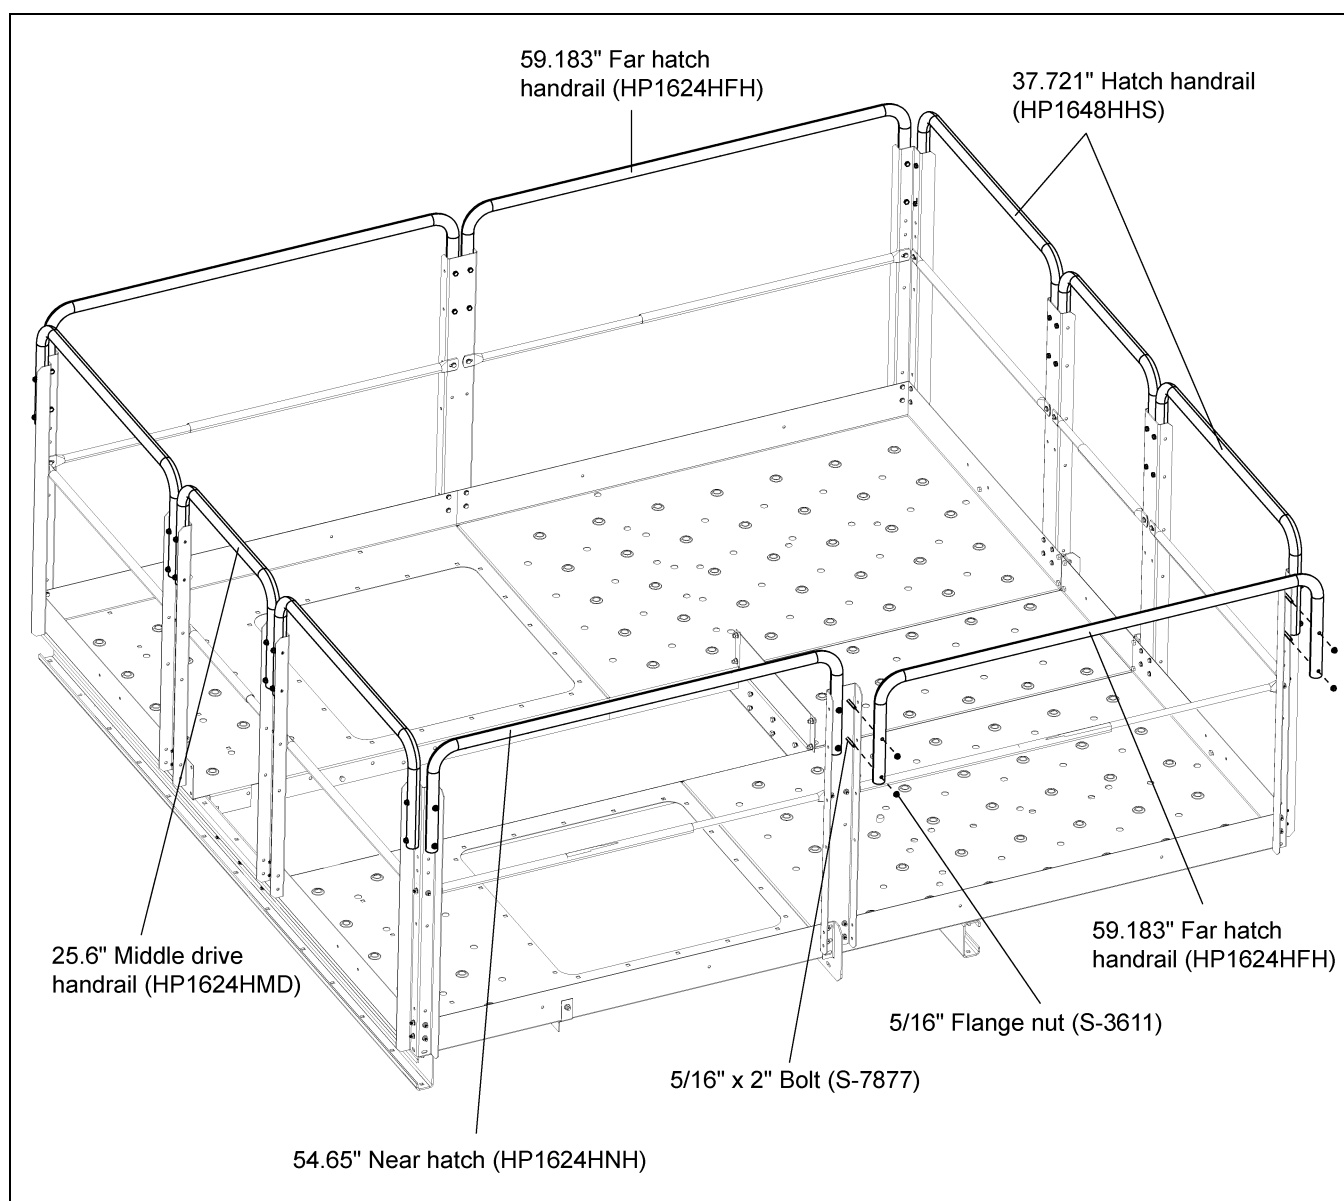

Figure 7U Top Rails
1. Attach two (2) 25.6" in length middle drive handrails (HP1624HMD) along Deck E and the lower head. These are the two (2) shortest sections of upper handrail. Connect using 5/16" nuts (S-3611) and 5/16" x 2" bolts (S-7877). (See Figure 7U.)
2. Attach four (4) hatch handrails (HP1648HHS): one on each side of the middle drive at each end of the platform. Handrails will fit without adjustment. Connect using 5/16" nut (S-3611) and 5/16" x 2" bolts (S-7877). Torque to standard specifications.
3. Two (2) 59.183" far hatch handrails (HP1624HFH) and two (2) 54.65" handrails (HP1624HNNH) opposite each other along Deck A and Deck C using 5/16" x 2" bolts (S-7877) and 5/16" nuts (S-3611).